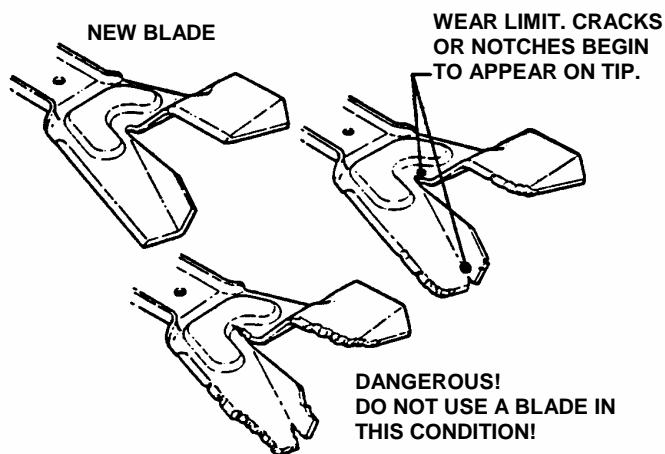

FIGURE 4.2
1. Inspect blade frequently for signs of excessive wear or damage. See Figure 4.2.